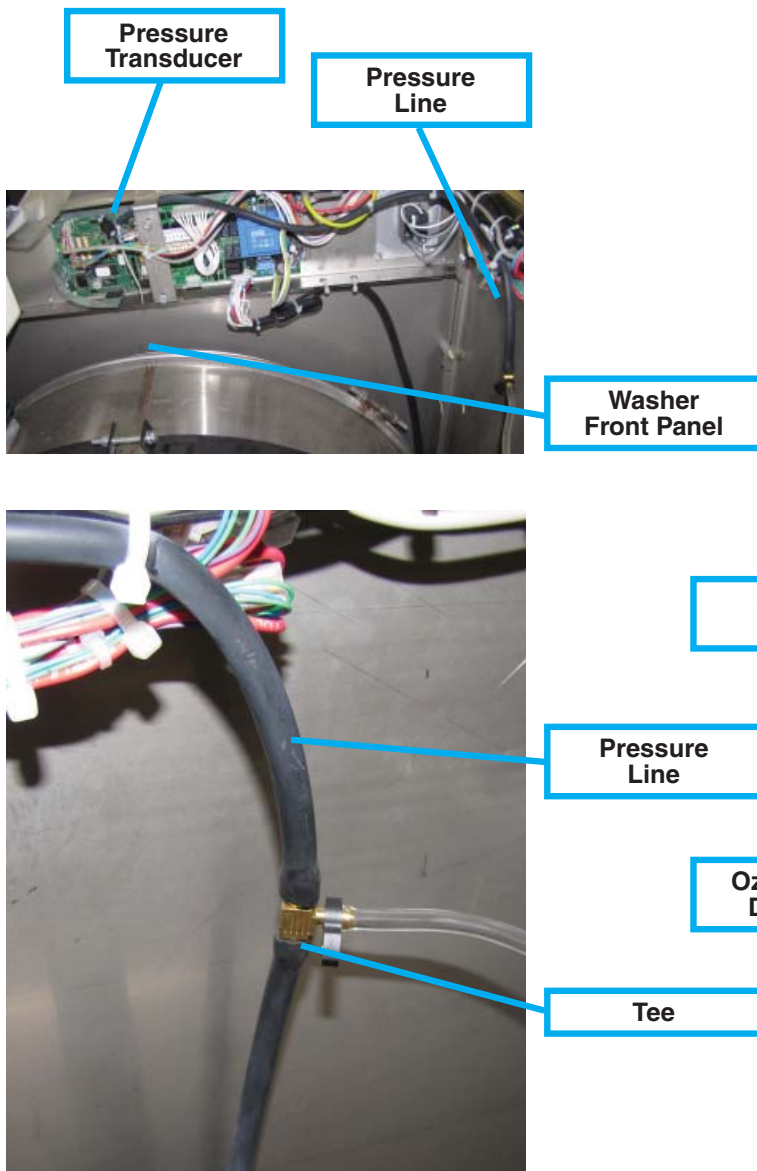

Figure 10: Installing the Ozone Trigger Line in the Pressure Line
- B5.1.** Locate the pressure line inside the washer/ extractor electrical area. *See Figure 10 (left top)*
- B5.2.** Cut pressure line and install the tee provided. *See Figure 10 (left bottom)*